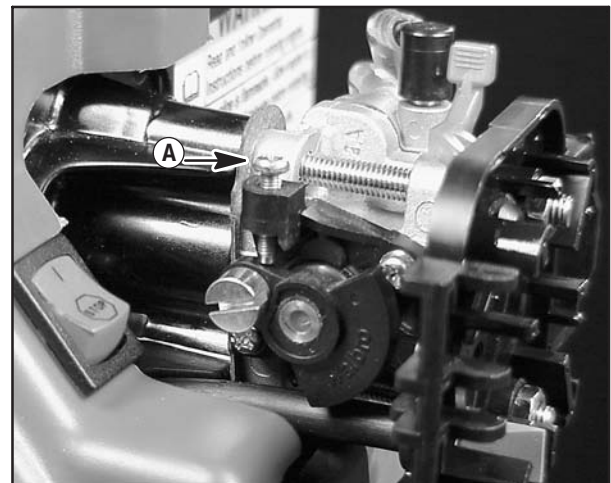

Fig. 15
2. Make sure throttle lever is contacting idle adjustment screw (A), Fig. 15.